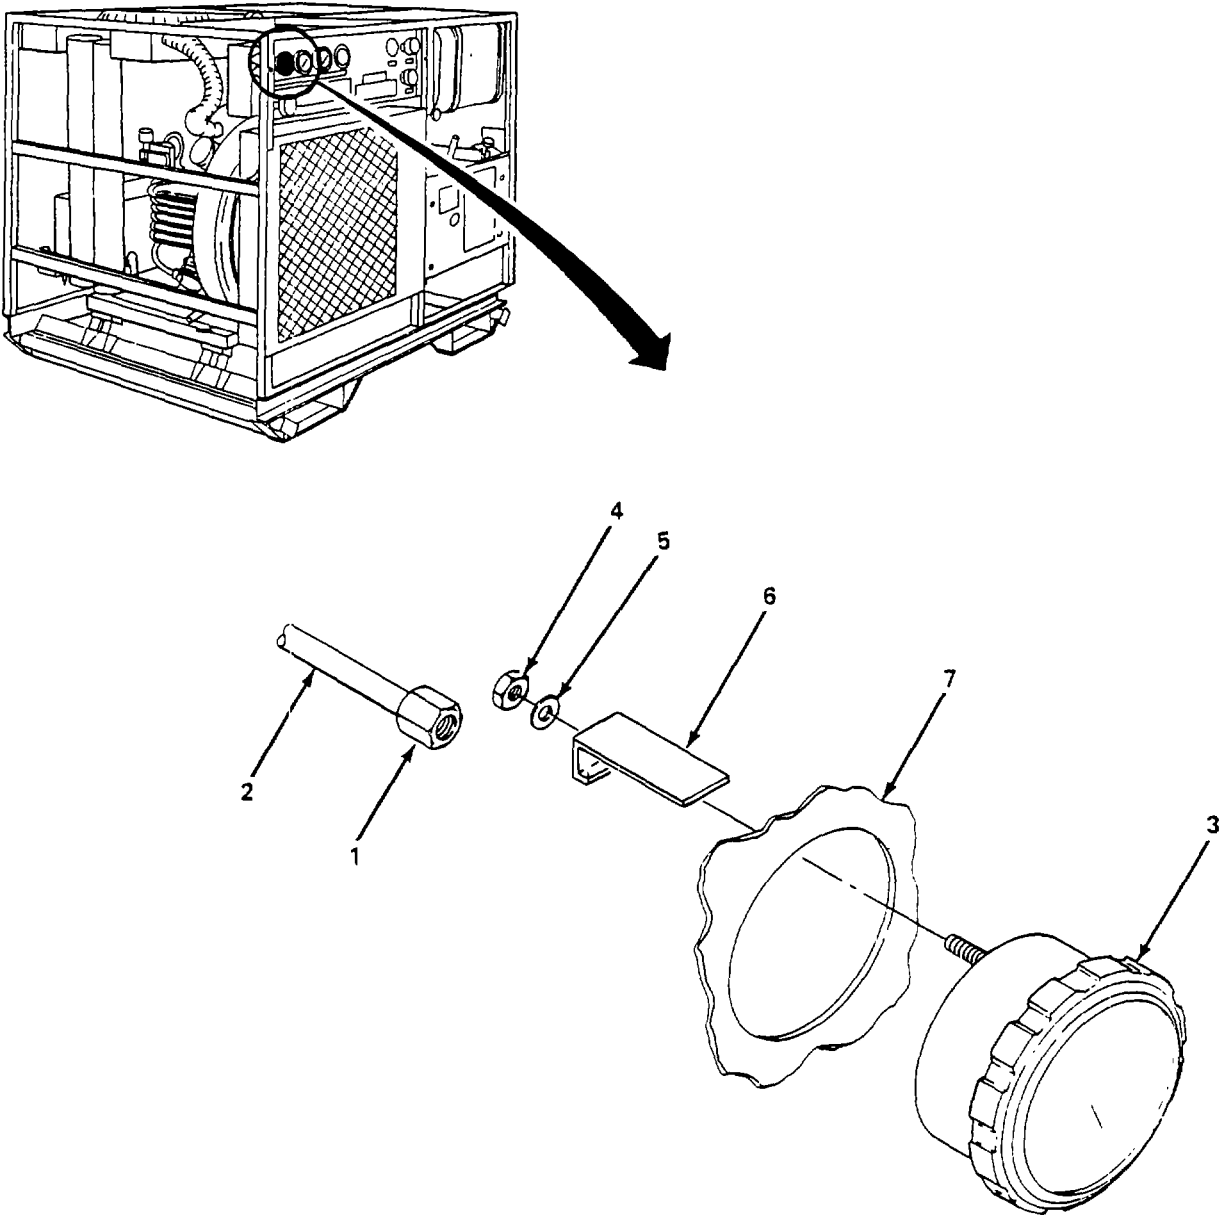

Figure 5-4. Service Line Pressure Gage, Replace.
- (h) Install fitting (14) and elbow (13) on control valve (9).
- (i) Install fitting (12) and tee (11) on elbow (12).
- (j) Install control valve (9) and secure with nut (8).
- (k) Install knob (7) on control valve (9).
- (l) Install line (6) and tighten fitting nut (5).
- (m) Install line (4) and tighten fitting nut (3).
- (n) Install line (2) and tighten fitting nut (1).
(2) *Service line pressure gage.* (figure 5-4)
- (a) Loosen fitting nut (1) and remove line (2) from pressure gage (3).
- (b) Remove two nuts (4) and lockwashers (5) and remove two brackets (6).
- (c) Remove pressure gage (3) from control panel (7).